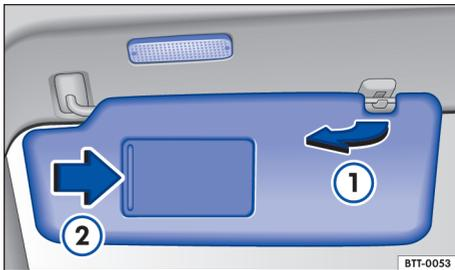

Fig. 73 Sun visor.
- Remove from the bracket and turn over towards the door → Fig. 73 ①.
A vanity mirror may be located behind a cover on the folded down sun visor. When you open the cover → Fig. 73 ② a lamp lights up.